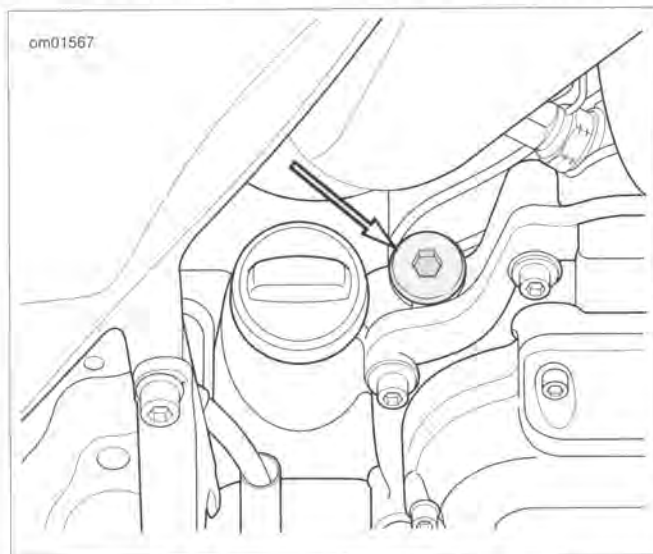

Figure 1-15. Transmission Dipstick Location
2. See Figure 1-15. Remove transmission lubricant dipstick. Wipe dipstick clean.
1. See Figure 1-15. Remove transmission filler plug/dipstick.